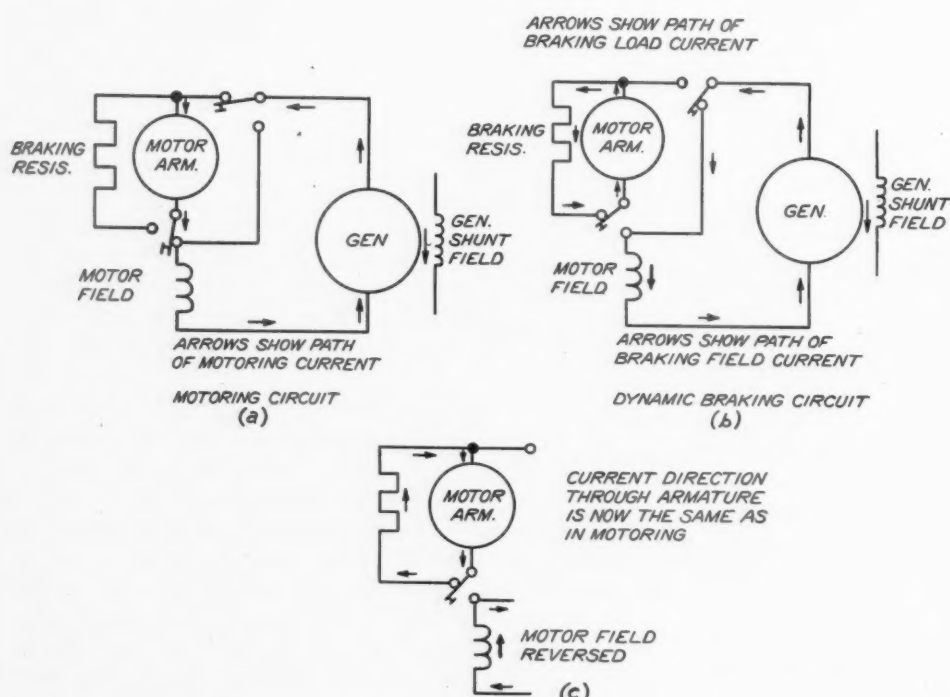

Fig. 3—Circuit sketches showing how a traction motor can be used for dynamic braking.
Now let's see how a motor is used for dynamic braking. At the beginning of this series, we learned that a d.c. machine could be used as either a motor or a generator. It is simply a matter of how it is connected. Let's take a look at Fig. 3. To be simple, this shows just one motor.
In Fig. 3 (a) you see the motoring connections. Current is being pumped through the motor armature and field by the generator. This causes the motor to turn and move the locomotive.
In Fig. 3 (b) two switches have been thrown to change the motor connections. Now the generator pumps current through the motor field only. Two things happened to the armature: (1) it was cut off from the generator; (2) it was connected across the braking resistor. Now we have separated the motor field from its armature and are pumping current through the field only. If the locomotive is moving, the wheels are turning and driving the armature. It is connected across a resistor so that it has a load. Here is all that is needed for a generator set-up. In elec-
If you look at the arrows in Fig. 3 (b) you will see that the field current is flowing in the same direction as it was in (a). But the armature current is reversed in (b). If we reverse the field current, Fig. 3 (c), the armature current will flow in the same direction as in motoring (a). Let's make this easy to remember—when you change from motoring to braking if the field current stays the same, the braking current will reverse. If the field current is reversed, the braking current will stay the same. We'll see how this comes in handy when we get to a four-motor set-up.
Here are some things about the circuit in Fig. 3 that you should know to understand dynamic braking.
The key to controlling the output of almost any generator is its field. In this case, it is the traction motor field. Look at Fig. 3 and you will see how it can be controlled. The main generator supplies the current for this field. In a previous article we saw how the main generator output is controlled in motoring. The same control is used for braking, but the generator is connected to the motor field only. By controlling this, we control the dynamic braking current. The engineer does this by moving the selector handle.